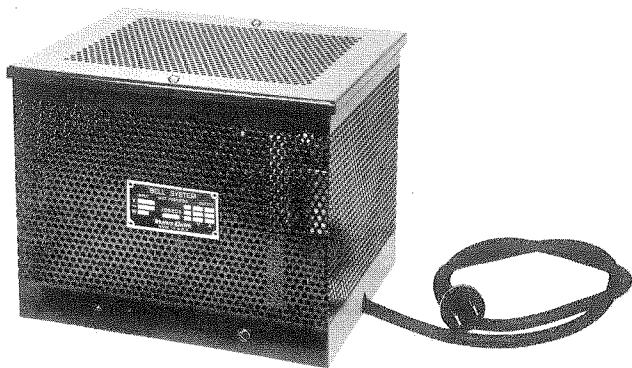

Fig. 1—J86205 Metallic Rectifier
1.05 The rectifiers consist essentially of a transformer, a selenium rectifier stack or a copper oxide varistor unit, and associated fuses, resistors, terminal blocks, etc., mounted in a sheet metal casing with a removable cover. In some cases, filter coils and capacitors are also provided. A flexible cord and non-polarized plug are provided for connection to the power service. Fig. 1 illustrates the casing used for the J86205A, J86205B and J86205F units. It is 6-1/2" high and the mounting base is approximately 8-5/8" x 6-5/8". The J86205C and J86205H units are contained in a casing similar to a 534-type subscriber set.